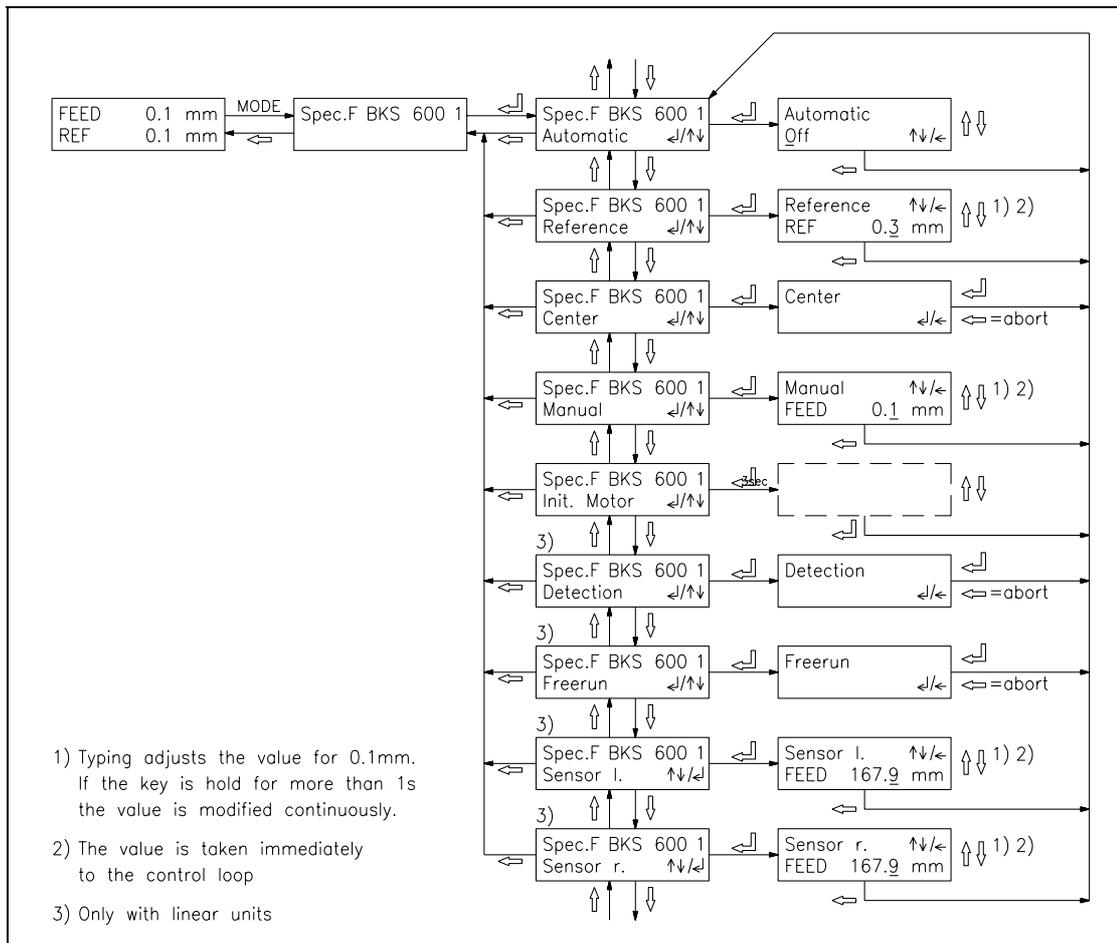
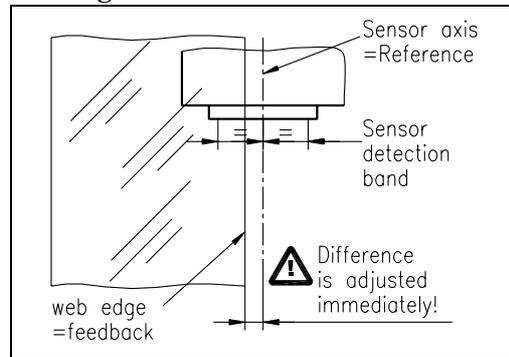
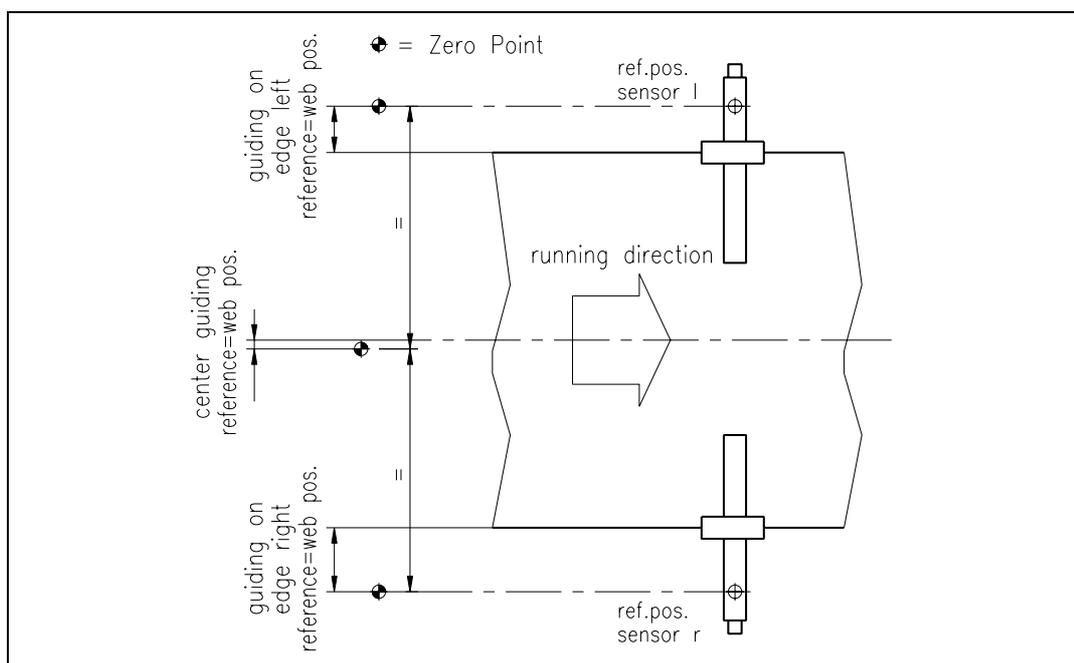
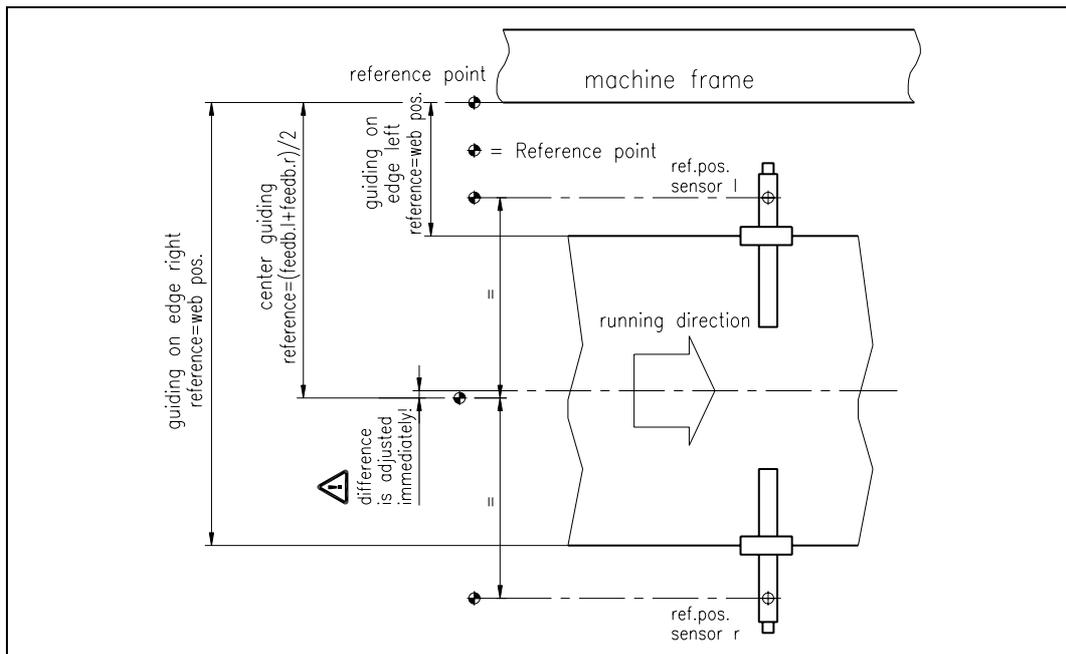

fig. 16: Main operating menu BKS600A
fig. 18: Calculation of reference position during automatic start K100005e
fig. 19: Calculation of the reference value during automatic start by using linear units (without reference point on the machine frame) K601009e
fig. 20: Calculation of the reference value during automatic start by using linear units (with reference point on the machine frame)
The special functions (ref. to fig. 16) provide the following possibilities for manual operation:
- Start automatic mode with special function *Automatic* (fig. 16) or digital input. The control LED *Auto* lights up. Reference position is taken from the middle of the sensor detection band (fig. 18). Using center guide, reference position is in the middle between the 2 sensor axis. The controller starts to guide the web to reference position and to hold this guide point.
- The reference position can be adjusted during automatic operation with the special function *Reference* (fig. 16) or using digital inputs (step width 0.1mm). With the ↑ key, the web moves out of the sensor; with the ↓ key, the web moves in. Using center guide, this description applies to the right sensor.
- Quit automatic mode with calling the special function *Automatic* again (fig. 16). The control LED *Auto* goes off.
- If no edge is found, a detection can be started with special function *Detection* (fig. 16) or by digital input. The linear units then search for the edge.
- Start automatic operation with special function *Automatic* (ref. to fig. 16) or digital input. The control LED *Auto* lights up. Reference position is taken from the actual web position (fig. 19). The controller starts to guide the web to reference position and to hold this guide point.
- The reference position can be adjusted during automatic operation with the special function *Reference* (fig. 16) or using digital inputs (step width 0.1mm). The sensors will follow the web edge automatically.
- Start automatic operation with special function *Automatic* (ref. to fig. 16) or digital input. The control LED *Auto* lights up. Reference position is taken from the actual web position; when center guiding, reference is taken from the center between the reference points of the linear units (fig. 20). The controller starts to guide the web to reference position and to hold this guide point.
- Execute special function *Freerun* (fig. 16) to move the sensors to the reference positions of the linear units.